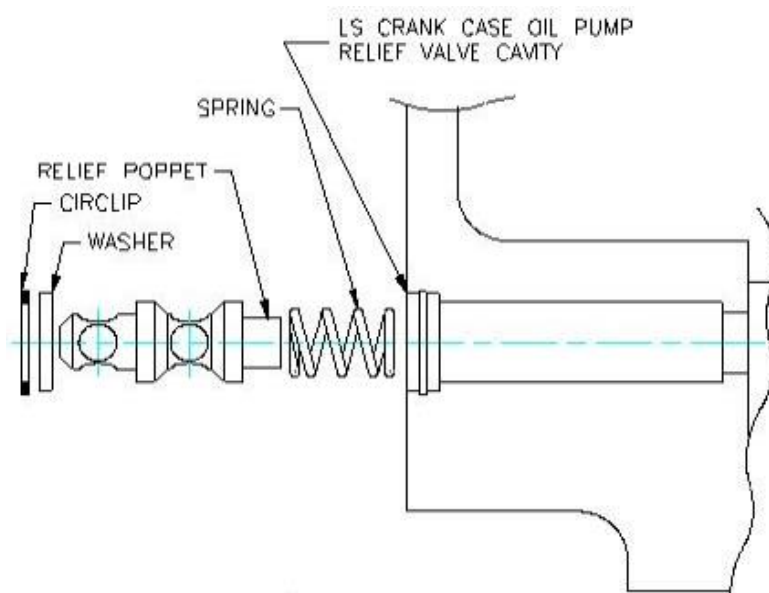

Figure 211 – Oil Pressure Relief Valve Assembly
- Fit the components of the valve as shown in Figure 211. Ensure the circlip is fitted with the flat face outwards and the curved face inwards – and that it “snaps” into position clearly when fitting.